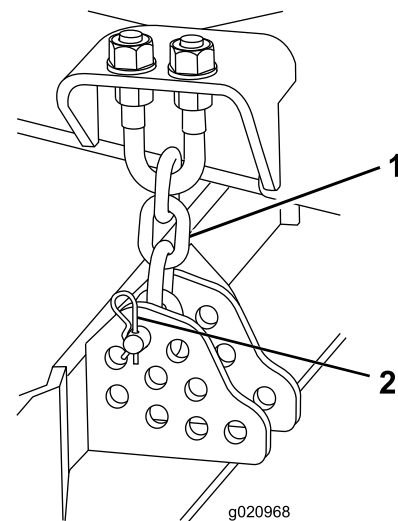

Figure 19
10. Remove the hairpin cotter and clevis pin securing the height-of-cut chains to the rear of the mower deck (Figure 19).